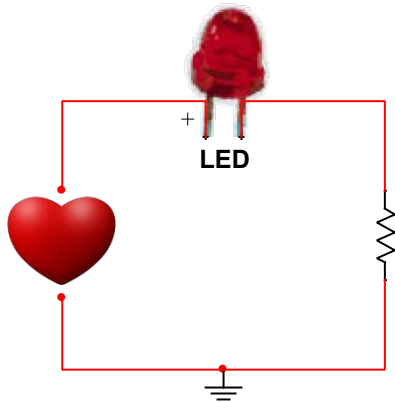
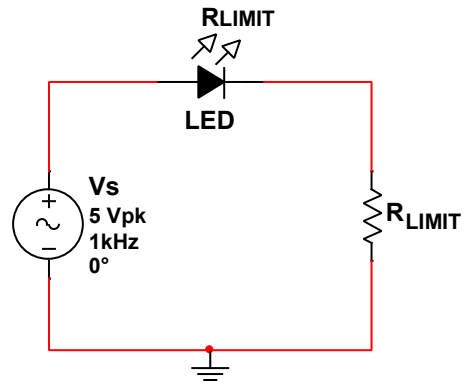

Figure P.1 – Bioamplifier Circuit Schematic
Figure P.2 – LED Circuit Schematic
**Figure P.1** shows the basic illustration of the circuit you will be building in lab. This figure does not show the bioamplifier, and instead shows your heart as the voltage source for the circuit. This will be replaced with the bioamplifier when you actually construct the circuit. The purpose of the circuit is for the LED to light up when it receives a positive voltage from your heart. For the prelab, you will use the circuit in **Figure P.2**.
1. **Simulate** the circuit in **Figure P.2** in Multisim.